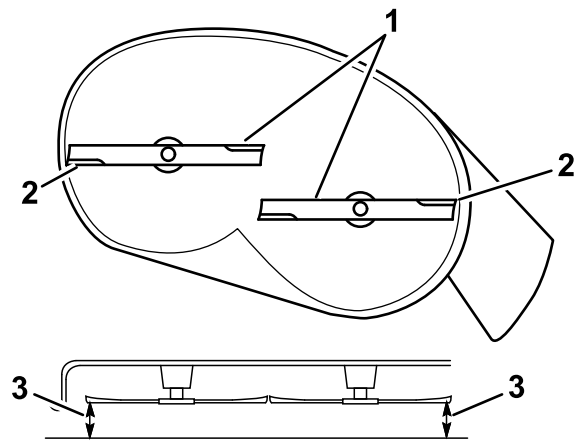

Figure 67
5. Measure between the outside cutting edges and the flat surface (Figure 67).